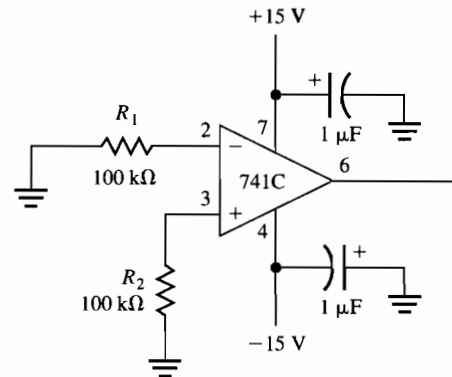

Figure 44–3
- Connect the circuit shown in Figure 44–4. Set the signal generator for 1.0 V_{pp} at 1 kHz. Measure the output voltage, $V_{out(cm)}$. Determine the common-mode gain, A_{cm} , by dividing $V_{out(cm)}$ by $V_{in(cm)}$.